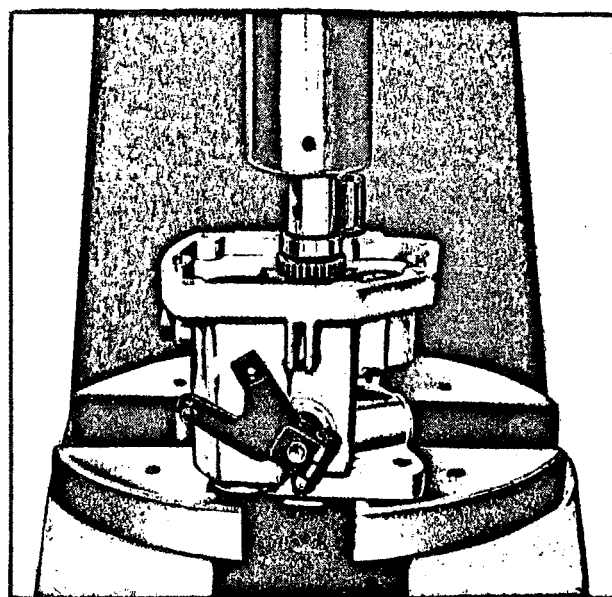

Fig. 32 - Driving-in the Camshaft
- check the teeth of gear (62) for wear; if necessary, replace the gear;
- insert the bearing (39) into the relevant seat in the pump housing;
- by means of a press (fig. 32), drive the camshaft (3), complete with the gear (62) and bearing (38), into the bearing already fitted, having care to hold the latter with a suitable tool.
- secure the bearing (39) by fitting the snap ring (15);
- fit the seal (57), using a suitable installer;